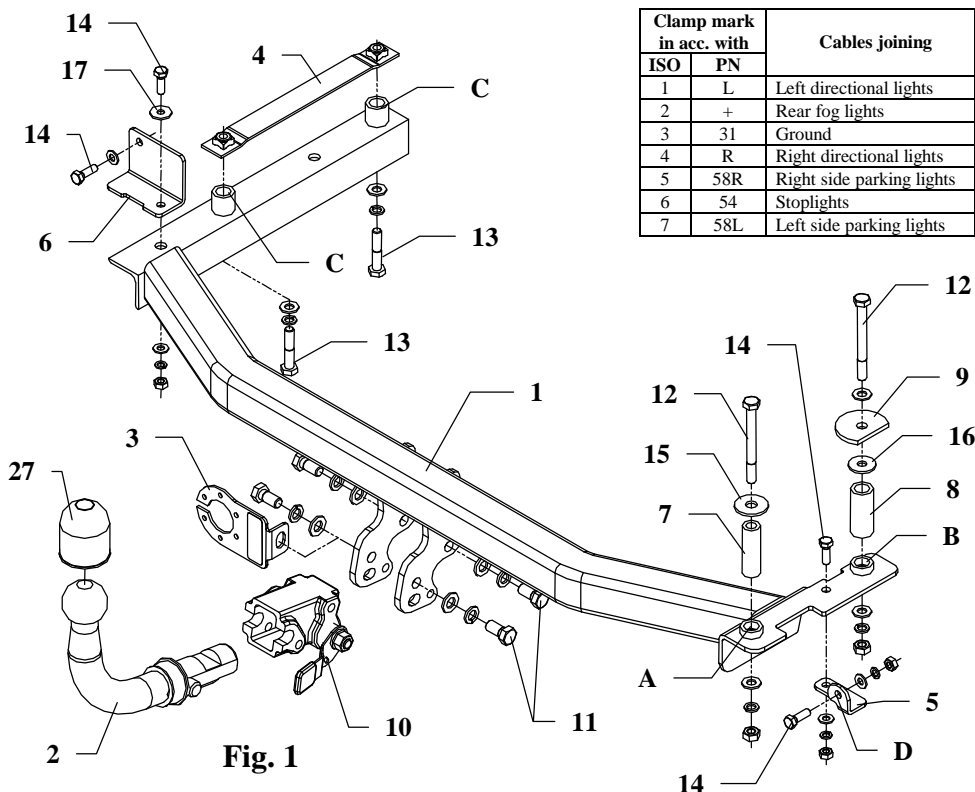

Fig. 1
5. According to figure 2 enlarge hole A (ca.  $\varnothing 20\text{mm}$ ). Slip distance sleeve (pos. 7), put bolt M10x100mm (pos. 12) together with washer as shown in the figure 1.
6. On the left side put fish-plate with nuts (pos. 4) into chassis member.
7. Inside boot on the right side find factory made hole and slip into distance sleeve (pos. 8). Put bolt M10x100mm (pos. 12) and cut washer (pos. 9) as shown in the figure 1.
8. Fix right bracket (pos. 5) with main bar of the towbar (pos. 1) as shown in the figure 1. Apply main bar of the towbar to chassis and fix at points A, B, C and D as shown in the figure.
9. On the left side fix bracket (pos. 6) as shown in the drawing 1.
11. Fix tow-ball (pos. 2) with socket plate (pos. 3) using bolts M12x75mm (pos. 10) and M12x70mm (pos. 11) from accessories.